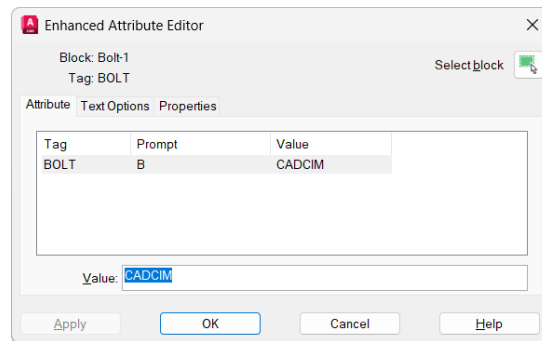

Figure 16-45 The Attribute tab of the Enhanced Attribute Editor dialog box
Choose the **Single** tool from the **Edit Attribute** drop-down from the **Block** panel to edit the block attribute values. When you invoke this tool, AutoCAD prompts you to select the block whose values you want to edit. After selecting the block, the **Enhanced Attribute Editor** dialog box is displayed, as shown in Figure 16-45. This dialog box allows you to change the **Attribute**, **Text Options**, and **Properties** of the block attribute. This dialog box can also be invoked by double-clicking on the block or the attribute in the current drawing. The **Enhanced Attribute Editor** dialog box displays all the attributes of the selected block and their properties.
The options under this tab are used to change the value of the attribute. Also, here the **Mode** of the attribute is not displayed. The other attributes of the block such as **Tag**, **Prompt**, and **Value** are displayed, as shown in Figure 16-45.
2. Choose the **Single** tool from **Insert > Block > Edit Attribute** drop-down; you are prompted to select a block. Select the computer located in Room-1. The **Enhanced Attribute Editor** dialog box showing the attribute prompts and values will be displayed, refer to Figure 16-45.